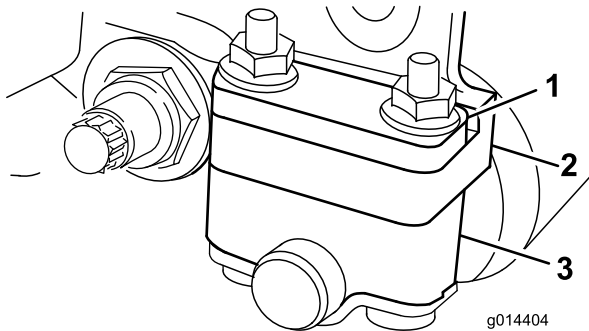
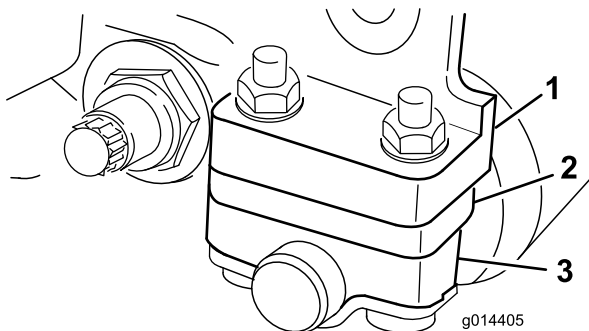

Figure 3
Figure 4
1. Adjust the rear roller brackets to the low or high position depending on desired height of cut range (Figure 3 and Figure 4).
- Position the spacer above the side plate mounting flange (factory setting) when height of cut settings range from 1/16 to 1/4 inch (1.5 to 6.3 mm) (Figure 3).
- Position the spacer below the sideplate mounting flange when height of cut settings range from 1/8" to 1" (Figure 4).